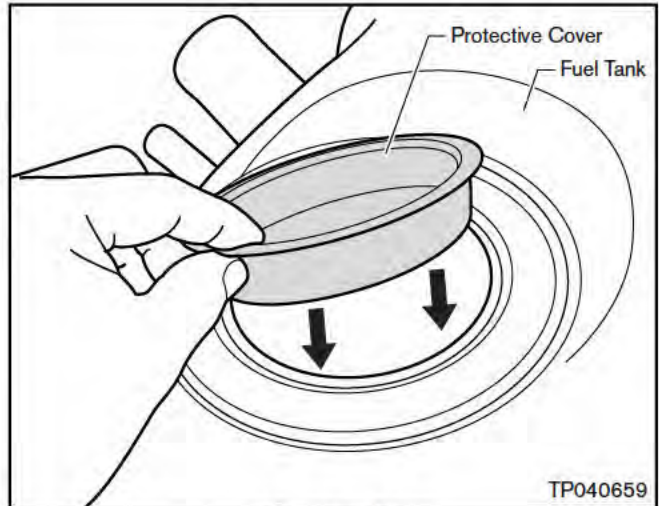

Figure 19
- The O-Ring groove has **NO** or light rust (no scaling) and can be cleaned with a light abrasive pad (such as Scotch Brite Pad 3M #051131-07447) or a copper/bronze bristle brush. See Figures 19 & 20.
8. Insert the Protective Cover provided in Kit A (3-port) or Kit B (5-port) in the Fuel Tank opening (see Figure 19).